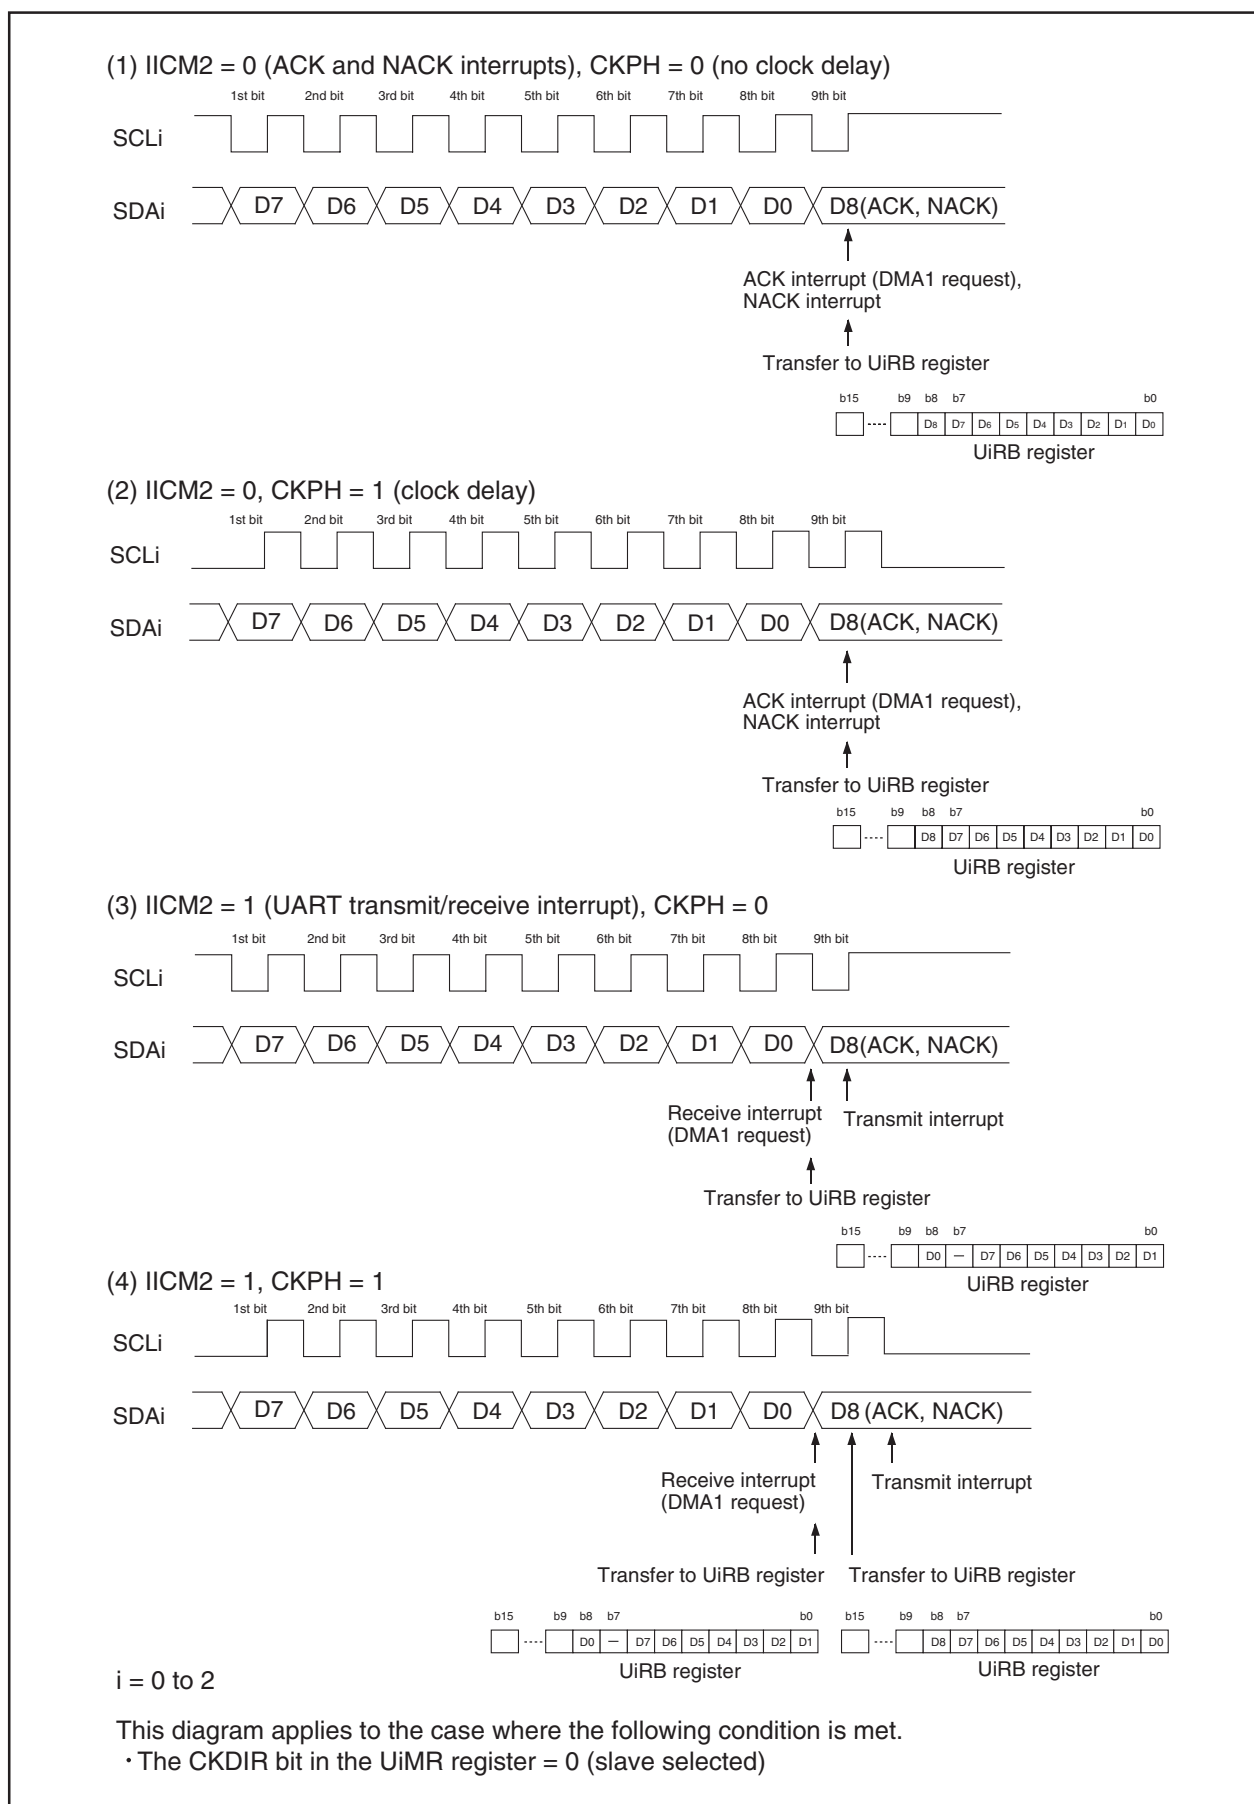

Figure 15.24 Transfer to UiRB Register and Interrupt Timing
- See Figure 15.24 Transfer to UiRB Register and Interrupt Timing.
Data is transmitted/received using a transfer clock like the one shown in Figure 15.24.